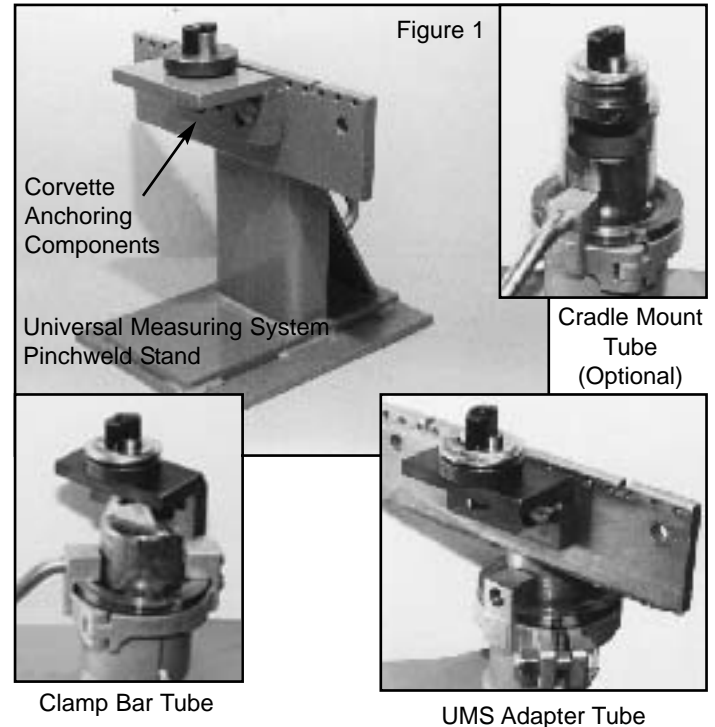

Figure 2
3. Insert head of threaded hold down attachment into oval hole at front corner of center section (see Figure 2) and turn attachment 90 degrees so that head straddles inside of oval hole.